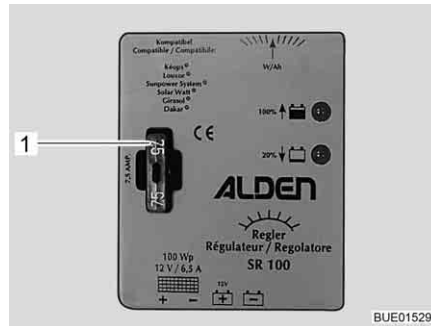

Fig. 166 Fuse of the 100 W solar charge regulator
- Replace flat fuse 5 A/light brown (Fig. 166,1).